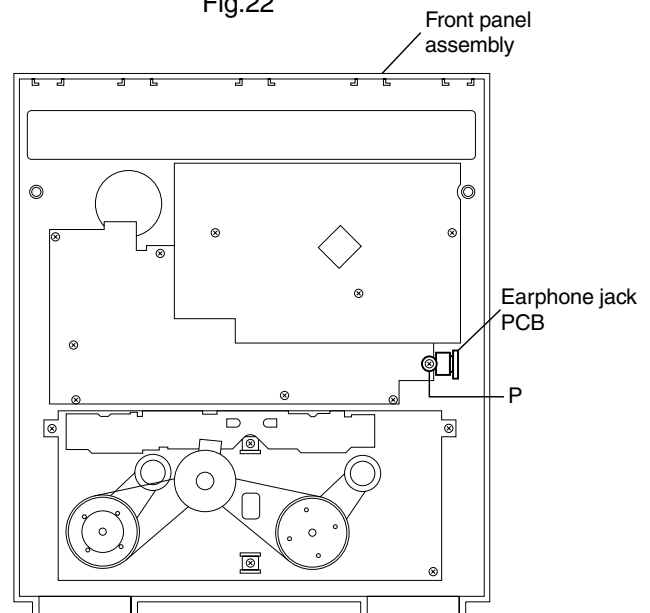

Fig.23
■ Removing the earphone jack PCB (See Fig.23)